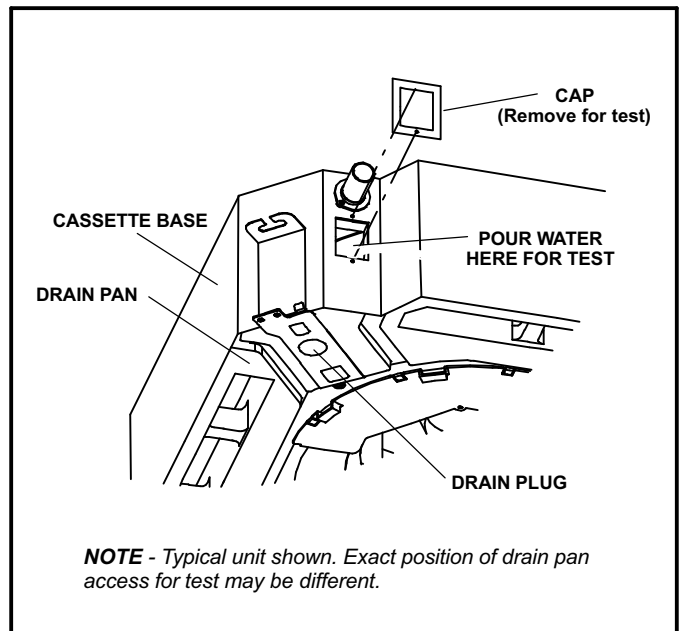

Figure 9. Condensate Drain Test
- 6 - **After system installation is complete, the condensate drain line must be checked for leaks and the condensate pumps must be checked to ensure proper operation. This check is part of the commissioning sequence.** Pour water into the evaporator drain pan to ensure proper condensate drainage. See figure 9. If a leak is found, shut down power to the unit at once and do not restore power to the unit until the problem has been resolved.